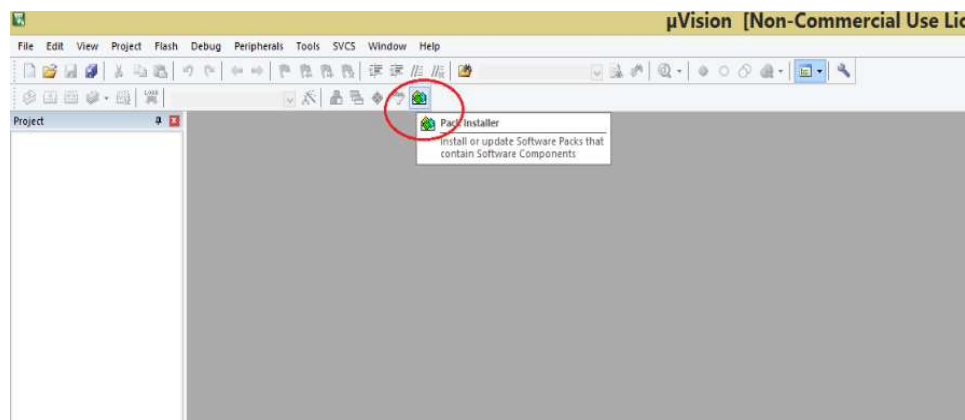

Figure 11: Select Pack installer
2. Now from the top bar select Pack Installer option  in the top bar as shown in Figure 11.